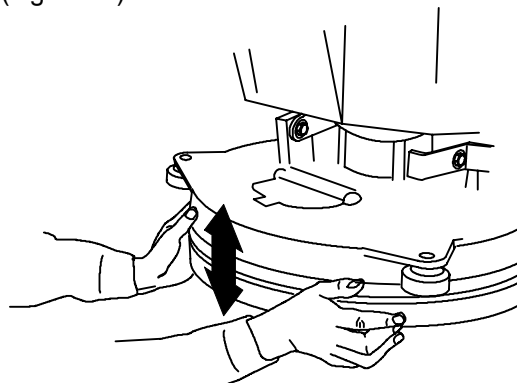

FIG. 17
- Adjust skirt height by sliding skirt up or down by hand. Skirt band clamp should only be slightly tightened to allow for easy hand adjustment (Figure 17).